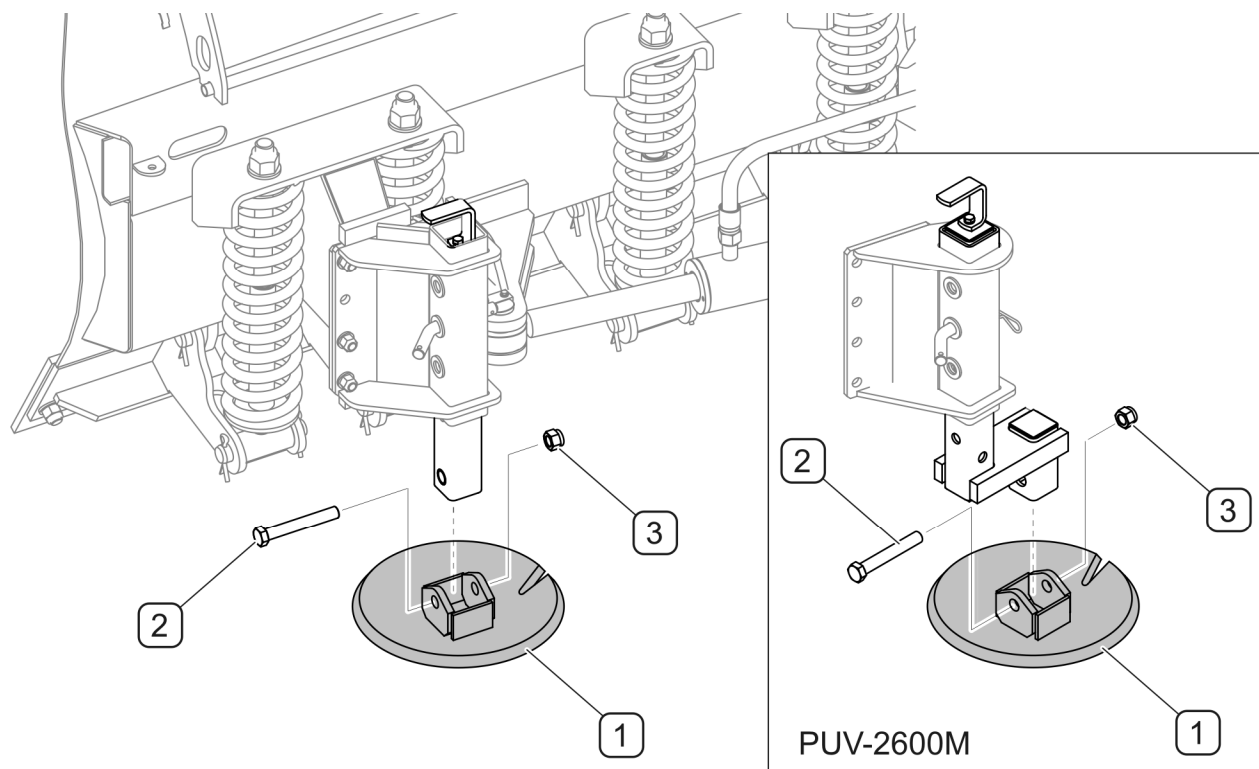

FIGURE 5.4 Slide replacement
(1) - slide; (2) - M16x110-8.8 bolt; (3) - M16-8 nut
Excessively worn or damaged slide elements (FIGURE 5.4) must be replaced with new ones. In order to do this raise the plough and support with sufficiently stable and strong supports. If the plough is hitched and raised on the front three-point linkage, protect it from falling and immobilise the tractor (turn off the engine and engage the parking brake.) Undo nut (3), remove bolt (2) fixing the slide (1) with a slider. Check the slide (1) and other elements for damage or excessive wear. The list of slide working components including catalogue numbers is shown in TABLE 5.4